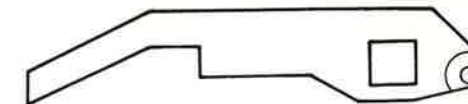

Fig. 3
As in this recorder erase head item 63, playback head item 93 and the pressure roller are in line, the capstan is the only component by means of which the tape path can be adjusted. The capstan bearing should be adjusted so that the capstan is perpendicular to the tape path. This is effected with the aid of an alignment jig (4822 402 60245), see Fig. 3.